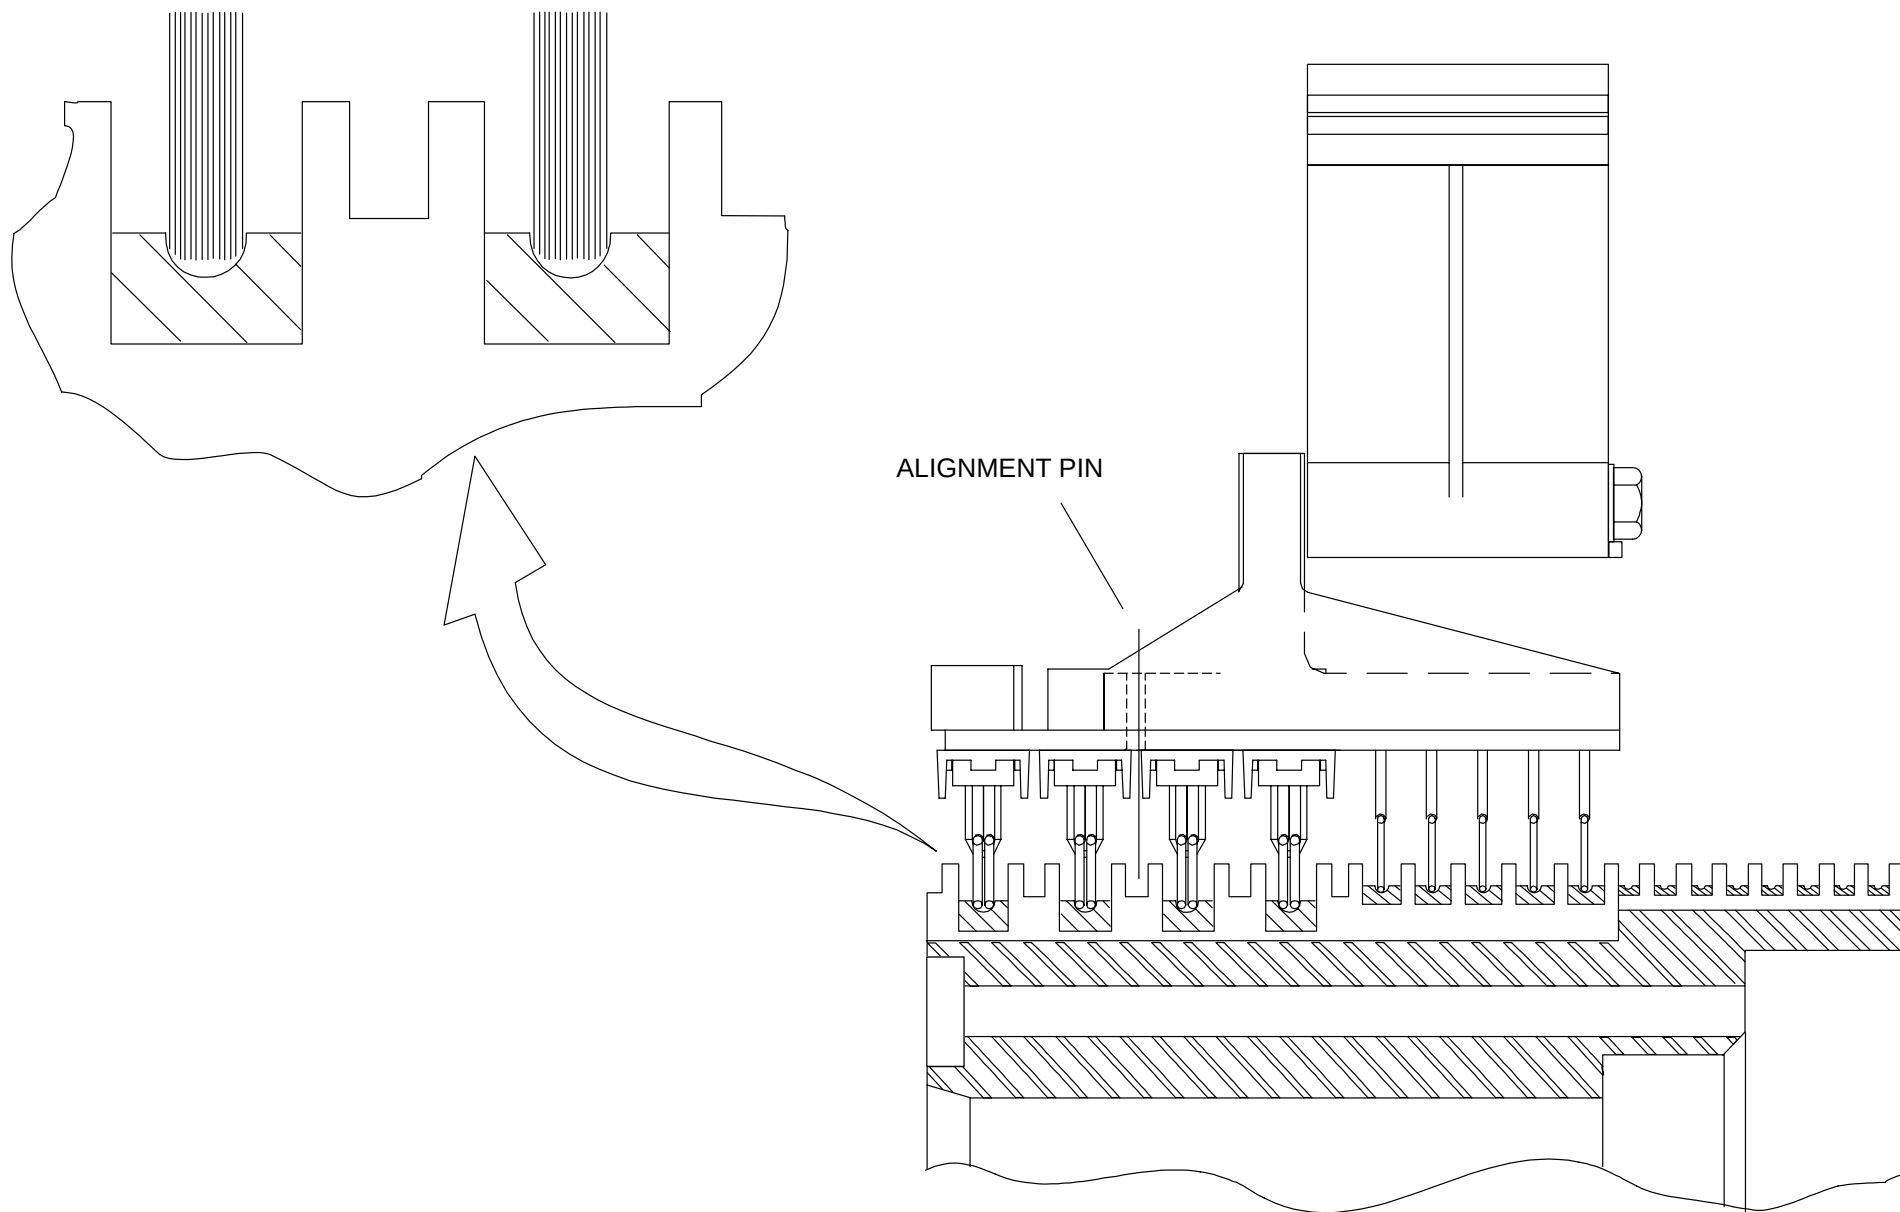

FIGURE 98 ALIGNMENT OF ASSEMBLY AND BRUSH FIBER TIPS (POWER)
4. Move the brush block assembly so that the brushes are centered in the groove, as shown in Figure 98. Slowly tighten the four screws that secure the mounting bracket to the underside of the shelf. Monitor the position of the brushes as the screws are tightened to ensure they remain centered in the grooves.